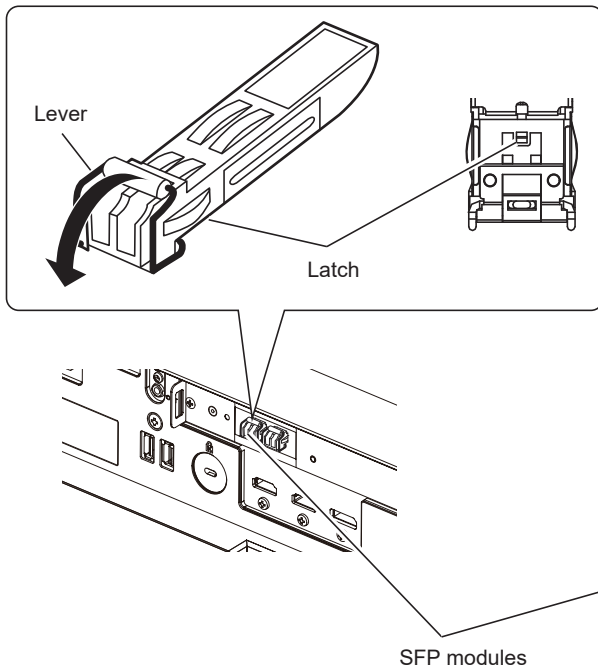

Fig. 1
2) Release the latch of the SFP module. (Fig. 1)